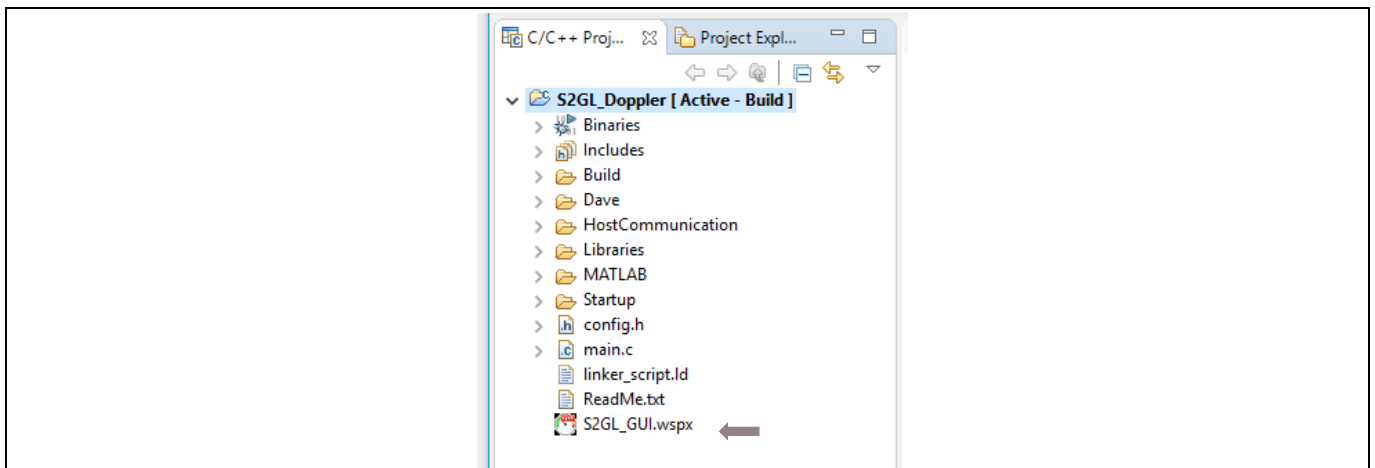

Figure 18 Open Sense2GoL GUI
- **S2GL_GUI.wsp** can be opened in Windows Explorer, or in S2GL_Doppler DAVE™ project explorer, as shown in Figure 18.